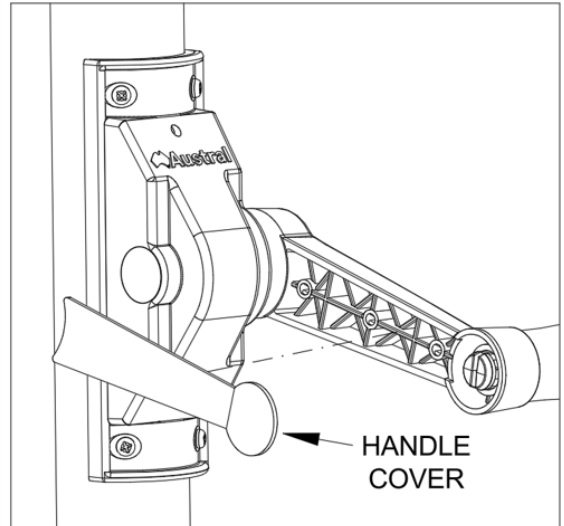

Fig 3. Fit the handle cover.
2. Press the Handle Cover into the rear of the handle by hand. (Fig 3).